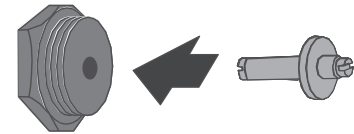

Figure 11
- 5** Reverse the retainer pin and snap it back into the regulator cap (see Figure 11).